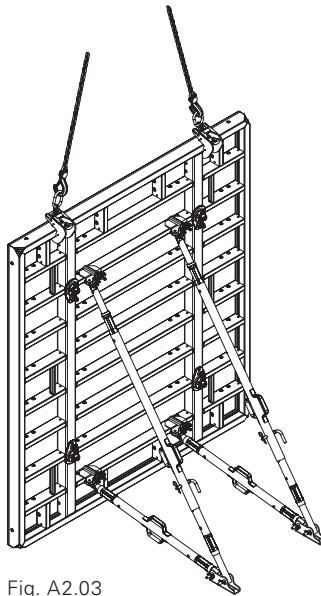

Fig. A2.03
6. Transport panel to place of operation by crane. (Fig. A2.03)